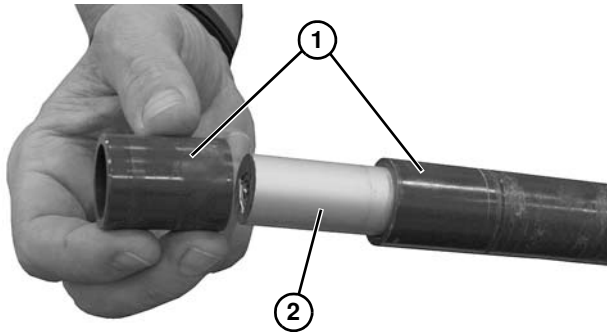

Figure 82
- Slide idler sleeves (**Figure 82, item 1**) off the end of the idler shaft (**Figure 82, item 2**). If equipped, remove second idler shaft and remove idler sleeves.